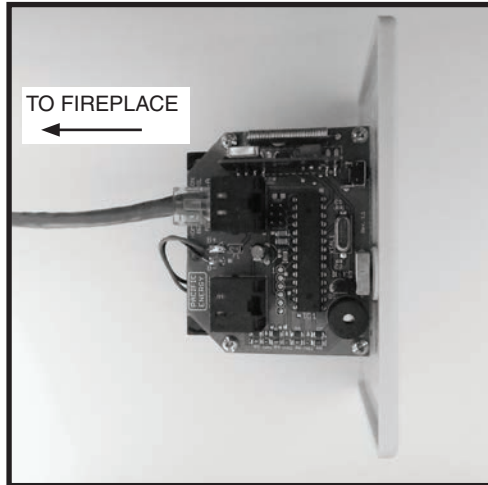

Figure 26: Wall switch - electronics side.
6. Route the wall switch control cable (supplied) as required to the wall switch (Figure 26).
7. Attach one end of the wall switch control cable to the wall control. (Figure 26) , and the other end to the interface board (Figure 24).